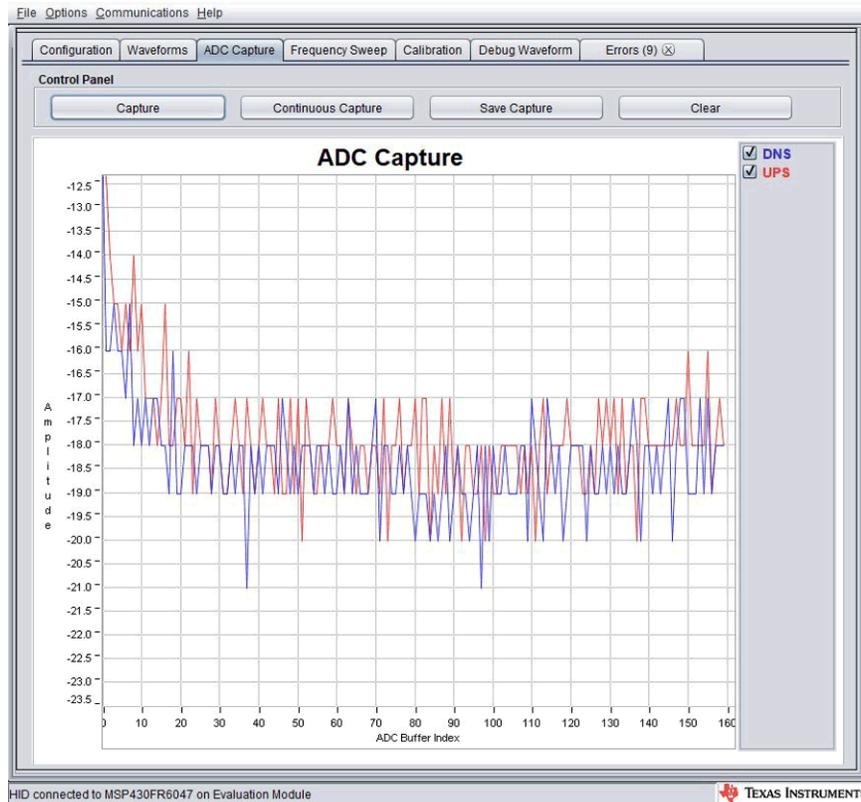

Figure 4-9. Captured ADC Signal With No Water or Bad Connection
- Be sure that the pipe is filled with water. If no water is in the pipe or the transducers are not connected properly to the EVM, the captured signal may look similar to Figure 4-9.